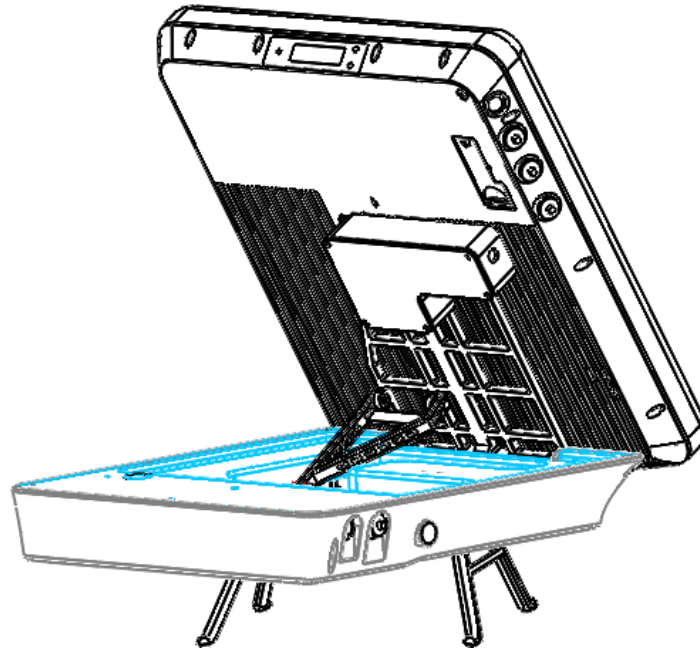
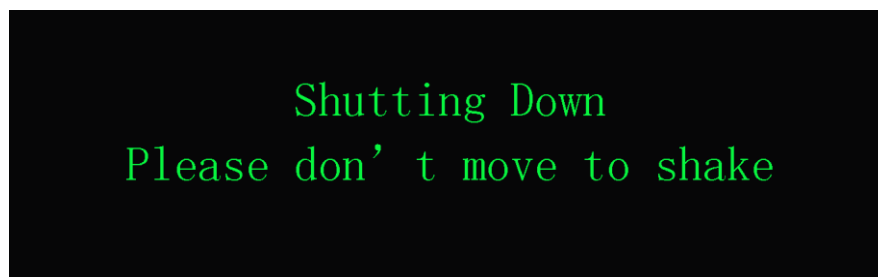

Figure 8-1-1 Power Socket
Figure 8-1-2 Shutting Down Prompts
1. Press the power switch button as shown in Figure 8-1-1 to make the device automatically storage, and the screen display is shown in Figure 8-1-2.